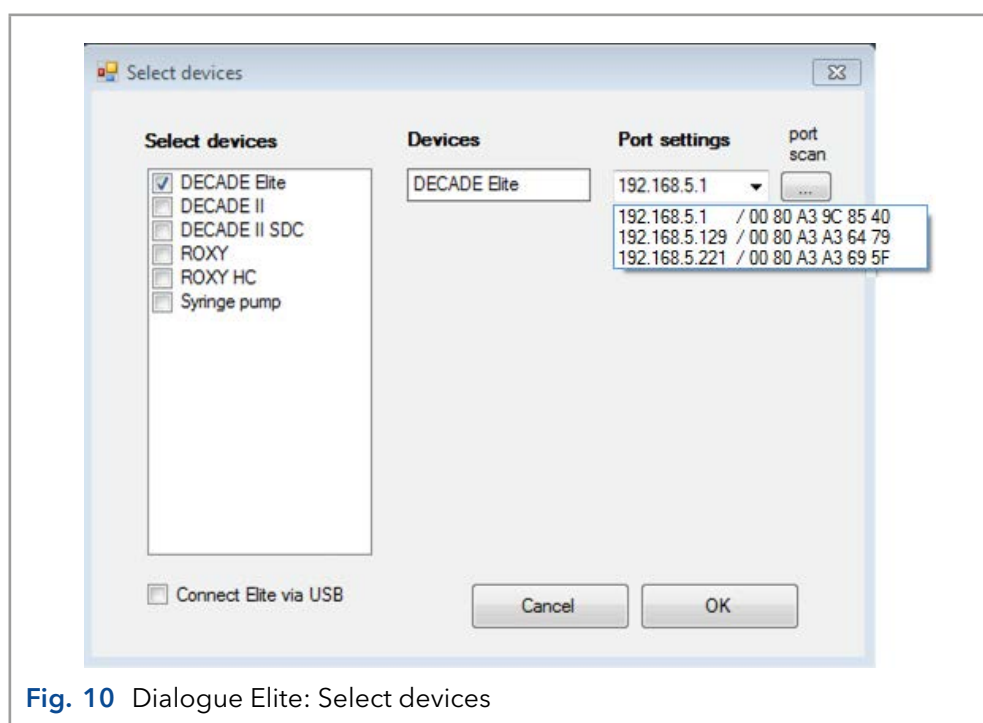

Fig. 10 Dialogue Elite: Select devices
- During start-up the 'Select devices' menu will pop-up as shown in Fig. 10.